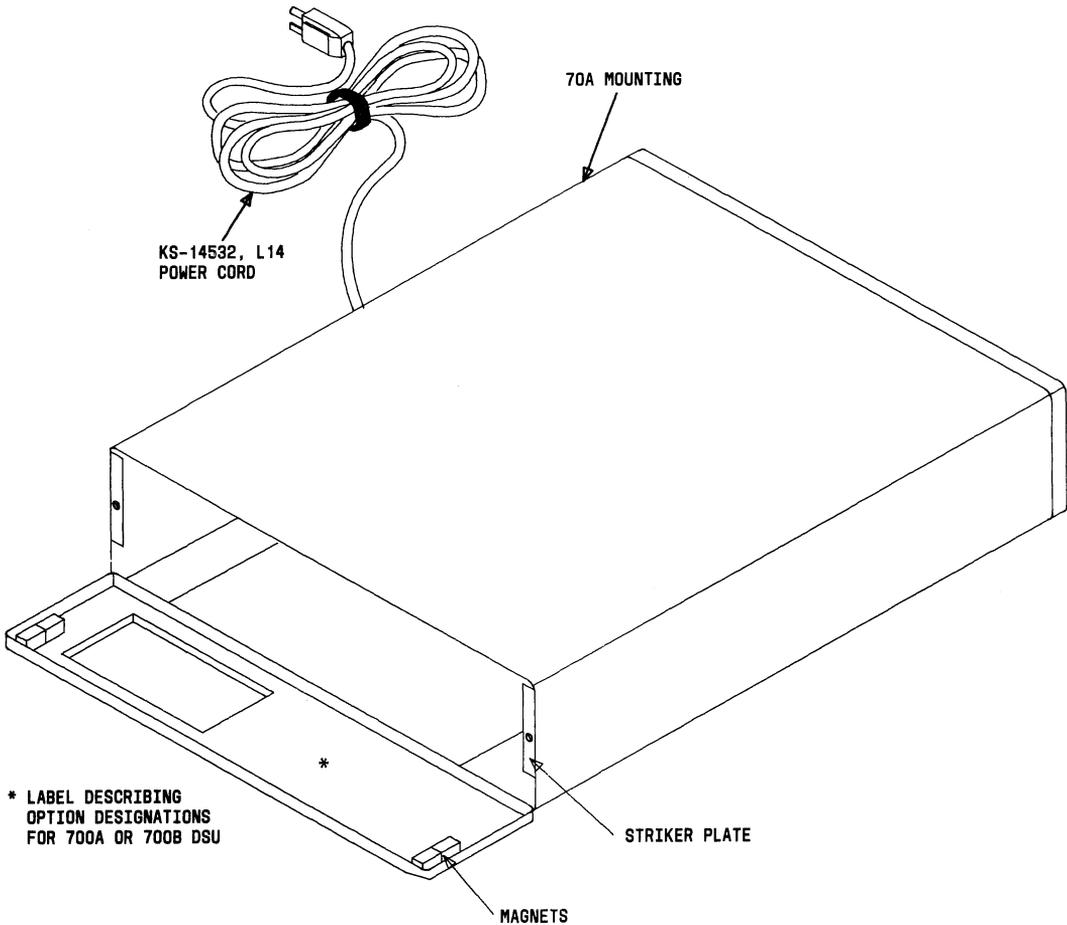

Fig. 4—70A Stand-Alone Mounting With Front Cover Open
2.09 The trunk data module circuit pack can be mounted individually in a 70A stand-alone mounting (Fig. 4) which is 12.05 inches long, 8.69 inches wide, 2.75 inches high, and weighs approximately 7 pounds with circuit pack installed.